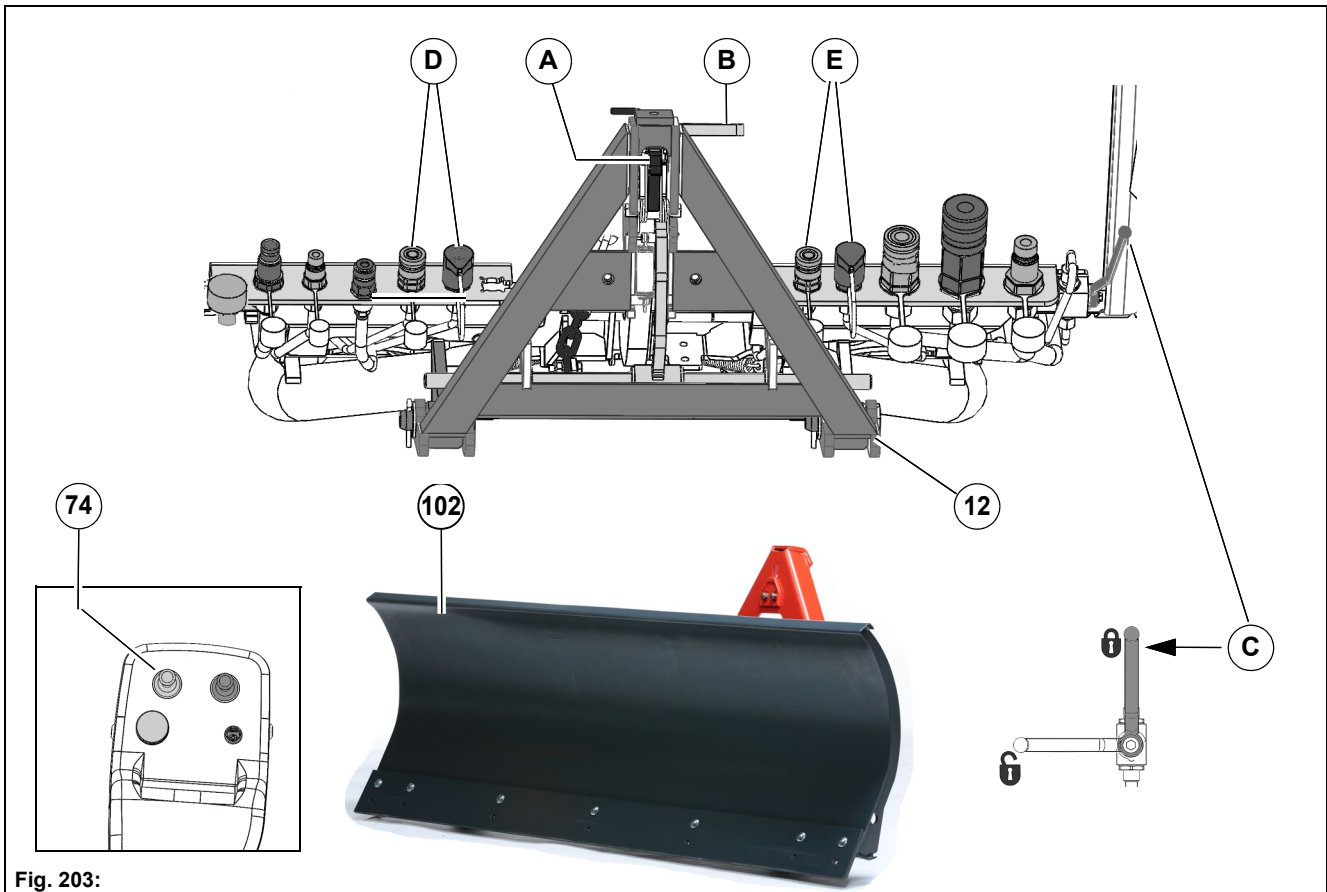

Fig. 203:
2. Unlock the locking hook **Fig. 203-A** and locking rod **Fig. 203-B** on the front tool carrier **Fig. 203-12**.
6. Close the valve **Fig. 203-C** for raising the suction mouth in the raised position!
- Swivel snow blade – supply = **Fig. 203-D**
- Swivel snow blade – return = **Fig. 203-E**